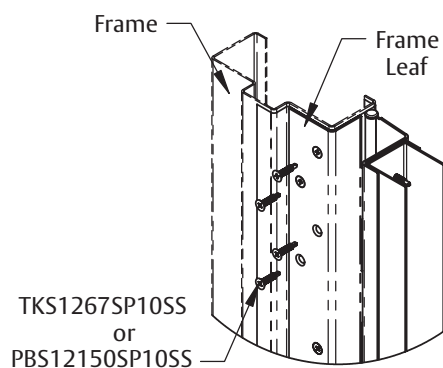

Fig. 7
B. Attaching hinge to frame (Fig 7):